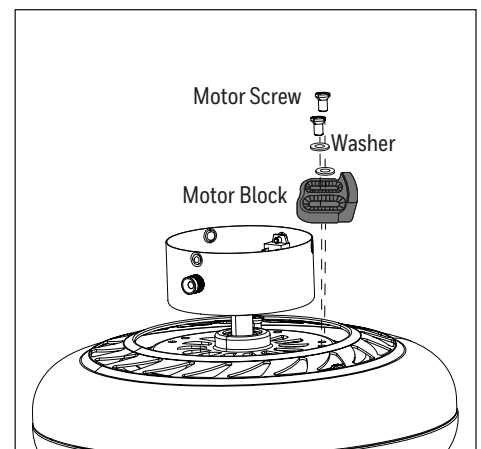

Figure 2.3
3. Remove motor screws, motor blocks and washers from underside of the motor assembly. Discard the motor blocks and washers but keep the motor screws for blade arm attachment (Figure 2.3).